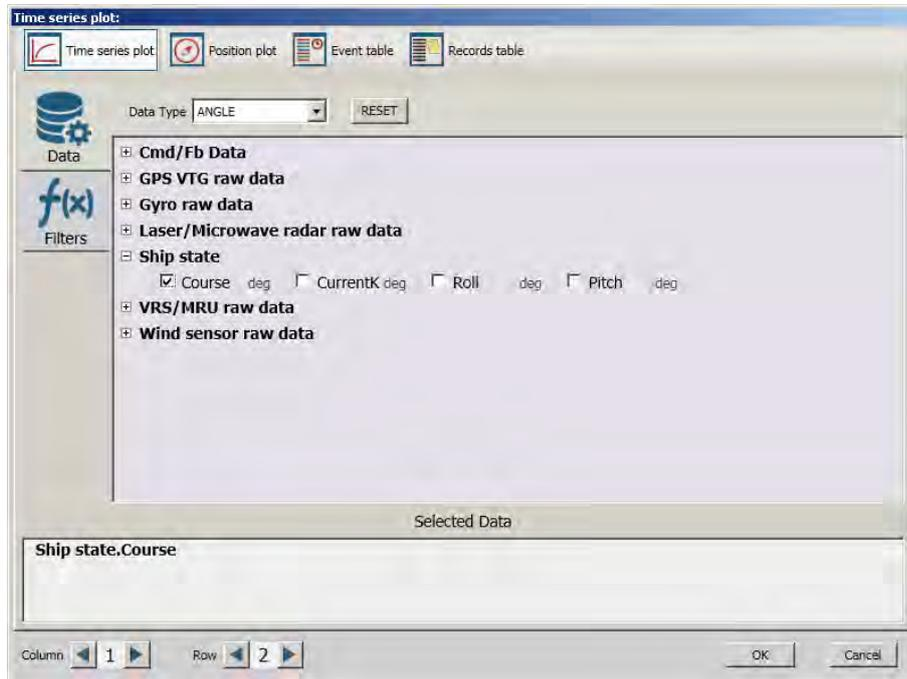

Figure H.23: Time Series Plot
4.1. When you select “Time series plot” item a window in which data and sensor parameters are selected for the charts will appear (see figure H.23).
- select required sensor parameters (see figure H.23) according to selected data parameters.